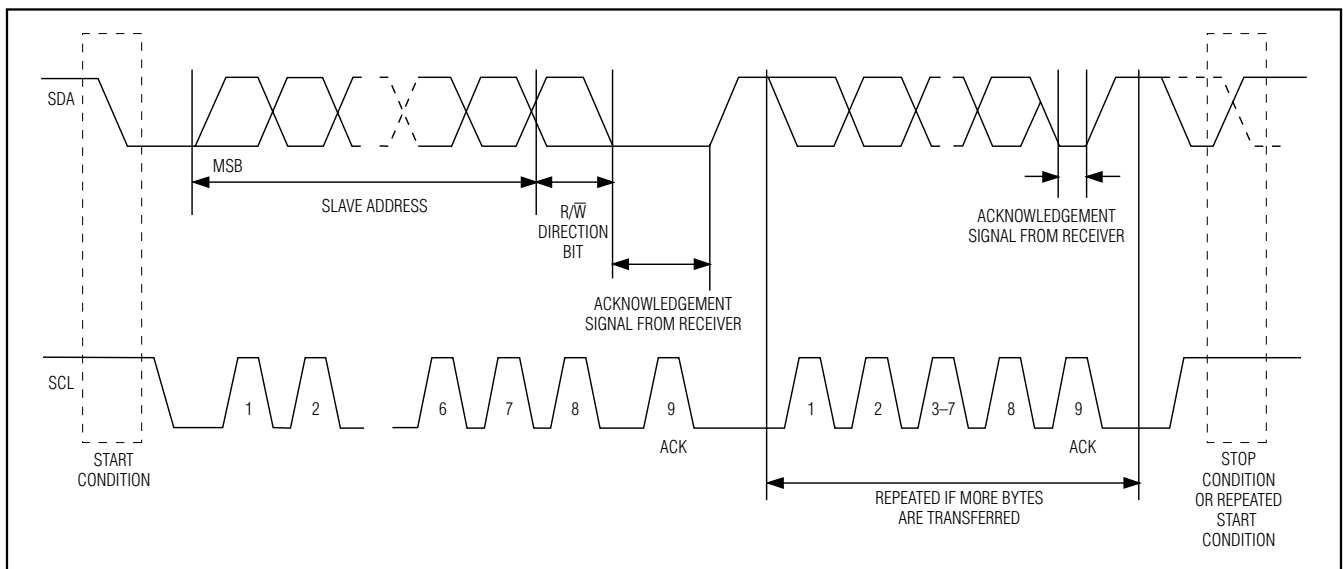

Figure 4. 2-Wire Data Transfer Protocol
**Clock and Data Transitions:** The SDA pin is normally pulled high with an external resistor or device. Data on the SDA pin may only change during SCL-low time periods. Data changes during SCL-high periods will indicate a START or STOP condition depending on the conditions discussed below. See the timing diagrams in Figures 4 and 5 for further details.
**START Condition:** A high-to-low transition of SDA with SCL high is a START condition that must precede any other command. See the timing diagrams in Figures 4 and 5 for further details.
**STOP Condition:** A low-to-high transition of SDA with SCL high is a STOP condition. After a read or write sequence, the stop command places the DS1856M into a low-power mode. See the timing diagrams in Figures 4 and 5 for further details.
The 2-wire serial-port interface supports a bidirectional data transmission protocol with device addressing. A device that sends data on the bus is defined as a transmitter, and a device that receives data as a receiver. The device that controls the message is called a master. The devices that are controlled by the master are slaves. The bus must be controlled by a master device that generates the serial clock (SCL), controls the bus access, and generates the START and STOP conditions. The DS1856M operates as a slave on the 2-wire bus. Connections to the bus are made through the open-drain I/O lines SDA and SCL. The following I/O terminals control the 2-wire serial port: SDA, SCL. Timing diagrams for the 2-wire serial port can be found in Figures 4 and 5. Timing information for the 2-wire serial port is provided in the *AC Electrical Characteristics* table for 2-wire serial communications.
**Data valid:** The state of the data line represents valid data when, after a START condition, the data line is stable for the duration of the high period of the clock signal. The data on the line can be changed during the low period of the clock signal. There is one clock pulse per bit of data. Figures 4 and 5 detail how data transfer is accomplished on the 2-wire bus. Depending on the state of the R/W bit, two types of data transfer are possible.